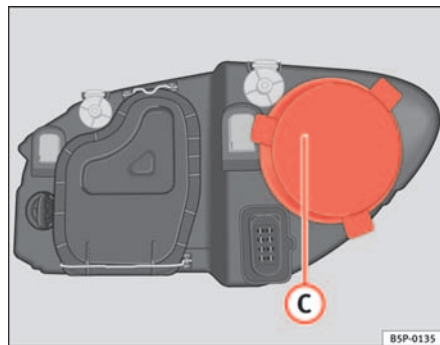

Fig. 184 Main beam headlights
- Remove the cover ⇒ fig. 184 ① by pulling on this.